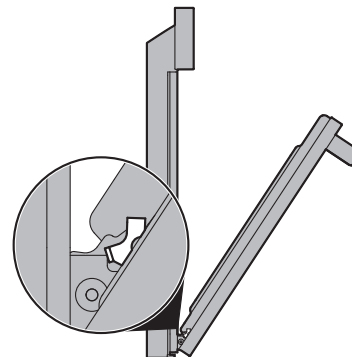

Figure 20: Removal position
3. Grasp the door by the sides, and close the door until the door frame makes contact with the unlocked hinges (Figure 20).
2. Hold the oven door at the same angle as the removal position (Figure 20). Carefully insert the hinge levers into the oven frame until you feel the hinge levers are seated into the hinge notches. The hinge arms must be fully seated into the hinge notches before the oven door can be fully opened.